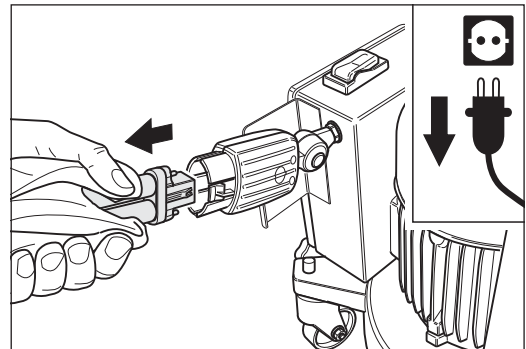

Fig. 84 Pull the defective fluorescent lamp out of the fixture **carefully**.
- 4 Wrap a cloth or similar item around the fluorescent lamp and then pull the fluorescent lamp off the fixture. If appropriate, move the fluorescent lamp back and forth carefully (fig. 84).